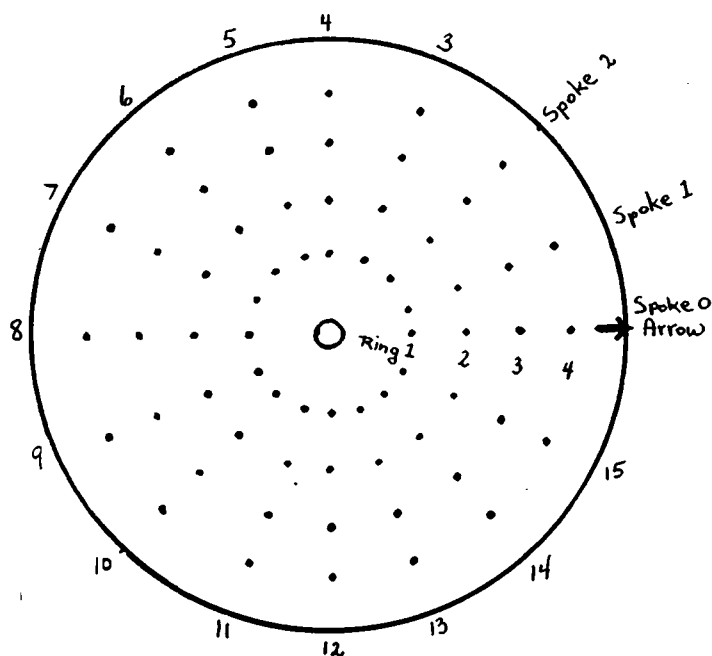

Figure 2-2
In this set of holes, all the hardware of a machine is mounted except the "multiple switches", which will be explained in a moment. The second pattern consists of 6 rosettes of 65 holes in a circular arrangement (shown in Figure 2-2). These are the 6 "bases" of the multiple switches.
12. Multiple Switches. The remaining material which you have in the kit consists of 6 round pieces of masonite, each containing 65 holes in the same circular arrangement (see Figure 2-2), and the hardware for assembling them into multiple switches, switches which are able to switch many circuits at the same time. Each of the circular pieces of masonite is
about 4 3/8 inches in diameter, is illustrated in Figure 2-2, and is called a multiple switch top (or switch disc, or switch dial).
starting with the spoke directly to the right, and going counterclockwise. See Figure 2-2.